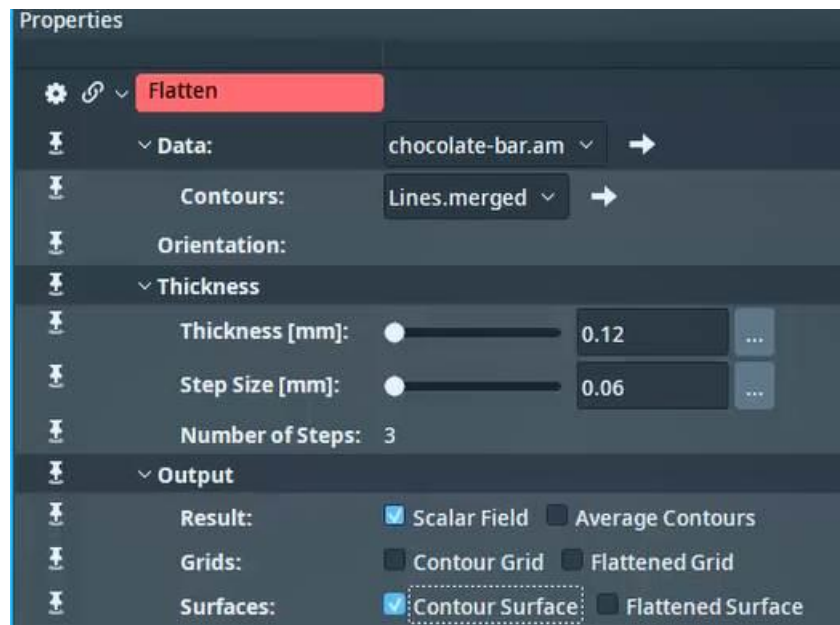

Figure 15
4. If you open the “Output” tear down group you can see that apart from the flat scalar field you can obtain as result of the module computation also the extruded grid, the flattened one as well as the extruded and flattened surfaces and triangle (Grids). See Figure 15 where the flattened scalar field and the extruded surface were selected.